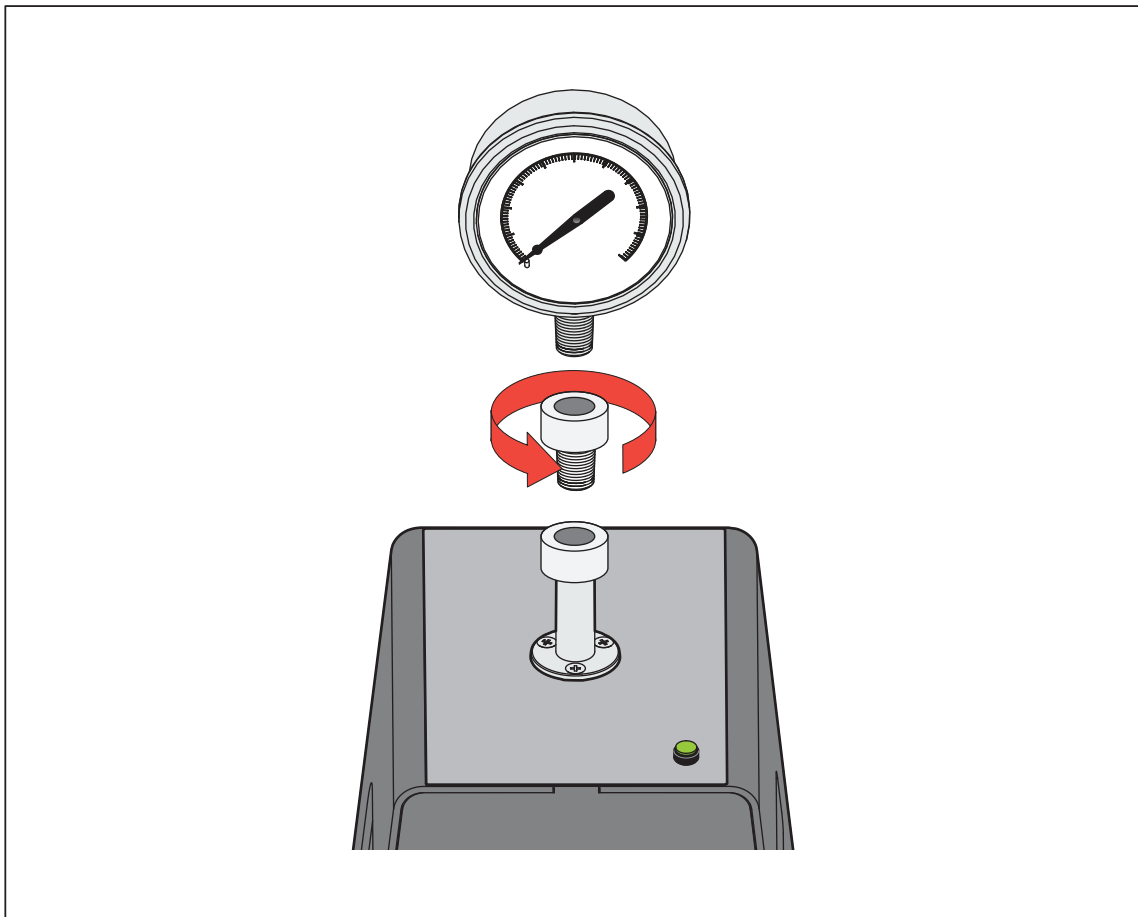

Figure 19. Screw on Gauge Adapter
1. Screw on the appropriate gauge adapter to the UUT, see Figure 19.